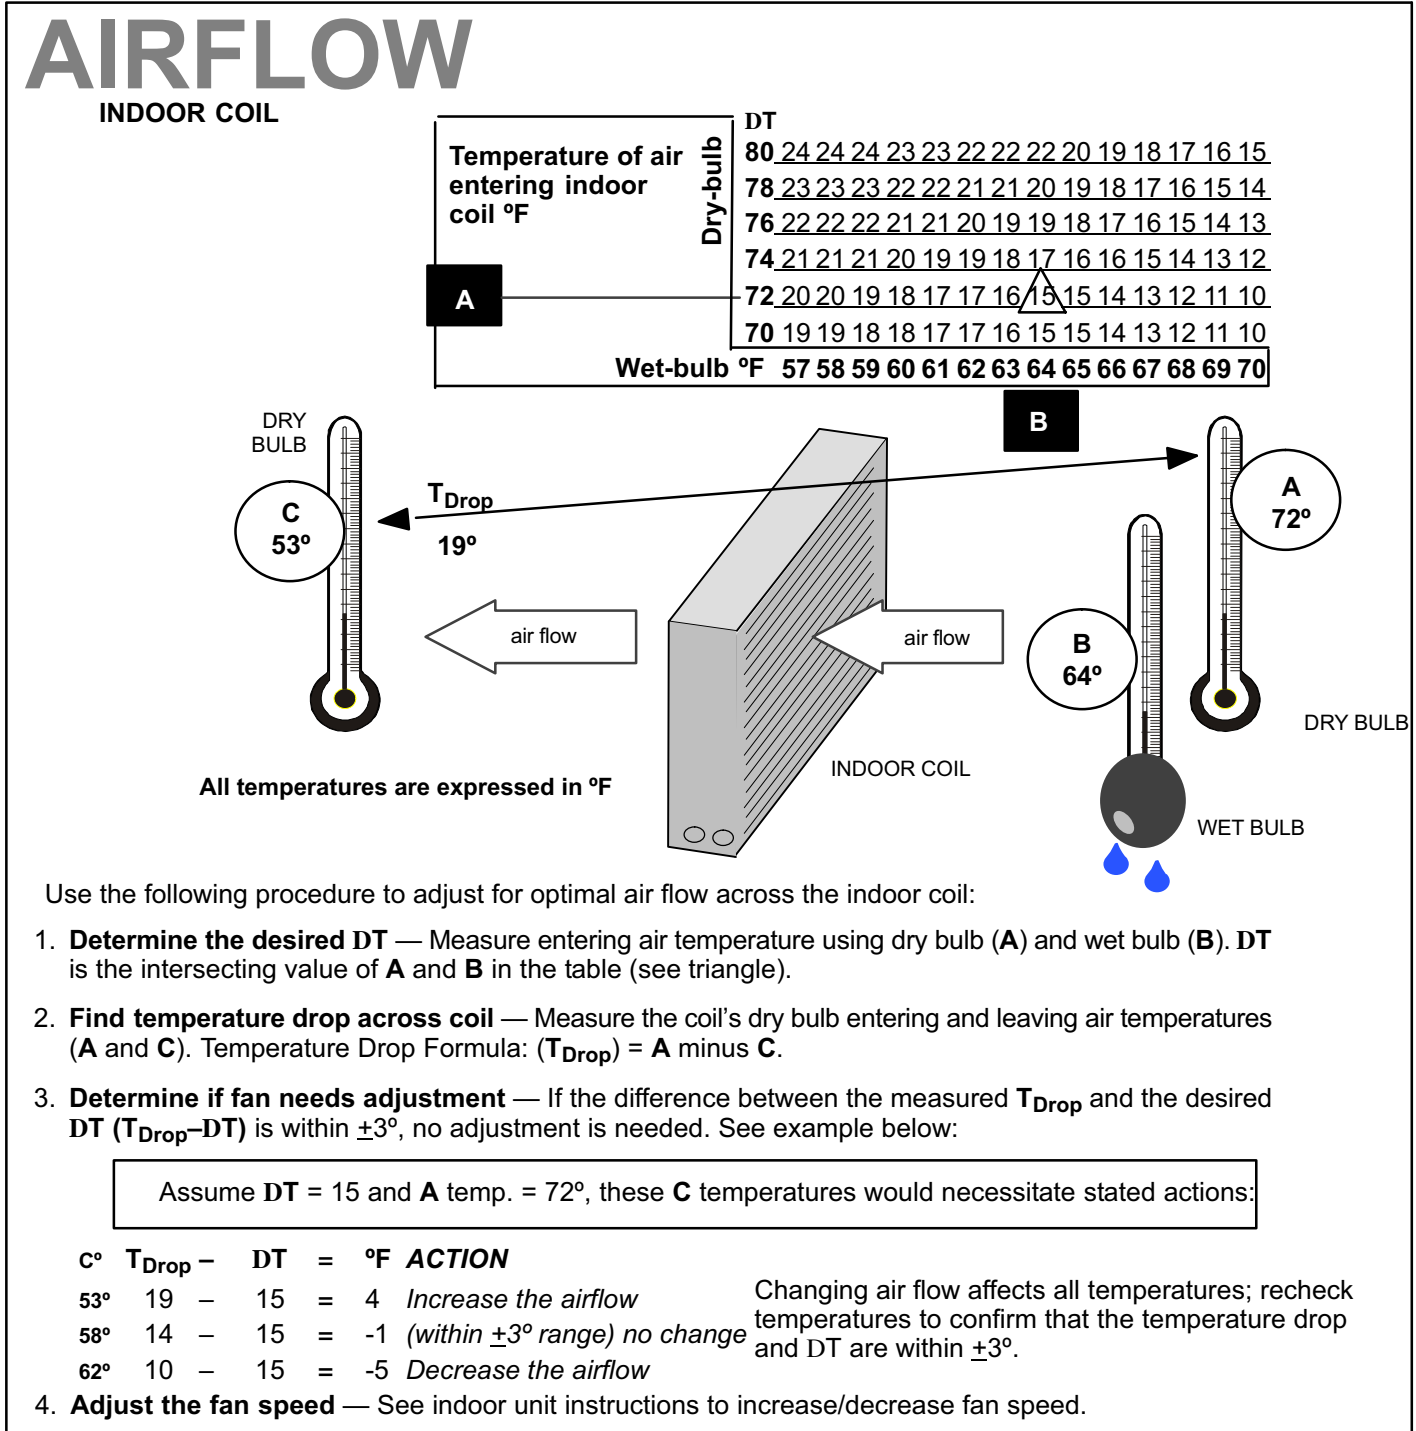

Figure 15. Checking Indoor Airflow over Evaporator Coil using Delta-T Chart
This system uses HFC-410A refrigerant which operates at much higher pressures than HCFC-22. The pre-installed liquid line filter drier is approved for use with HFC-410A only. Do not replace it with components designed for use with HCFC-22. This unit is NOT approved for use with coils which use capillary tubes or fixed orifices as a refrigerant metering device. Check airflow using the Delta-T (DT) process using the illustration in figure 15.
2. Confirm proper airflow across coil using figure 15.